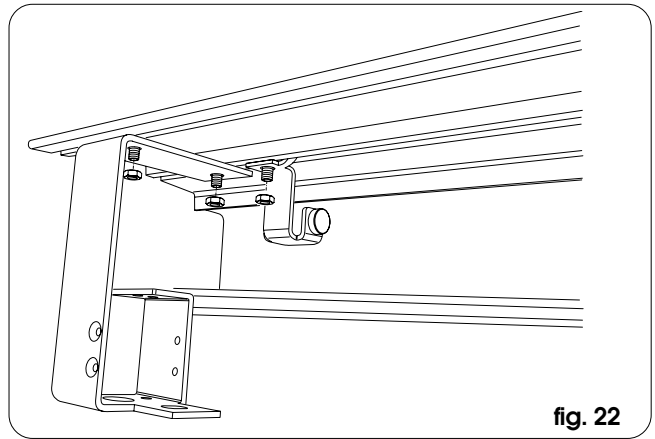

fig. 22
- Secure the side brackets to the ends of the head profile, using the most externally located of the pre-fitted tie-screws (fig. 22).
- For single-leaf doors: fit the mechanical closing and opening stops on the support profile (see fig. 22) using the most externally located of the pre-fitted tie-screws as yet unused.
- For double-leaf doors: fit the mechanical opening stops (as in fig. 22) using the most externally located of the pre-fitted tie-screws as yet unused.